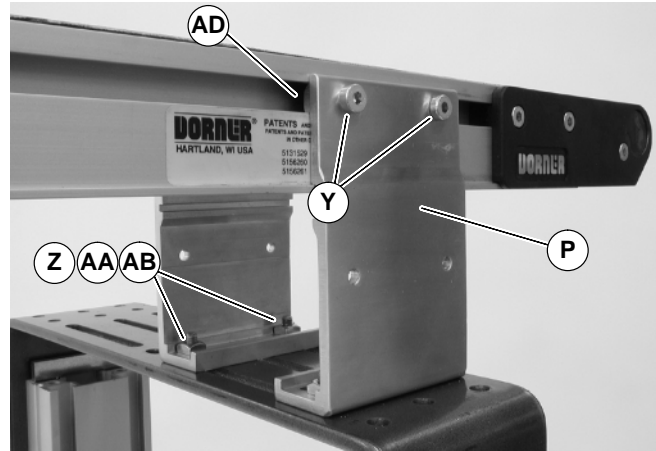

Figure 11
3. Insert T-bars (AC of Figures 9 & 10) into conveyor side slots (AD of Figure 11). Fasten brackets (P of Figure 11) to conveyor with mounting screws (Y).
4. Fasten brackets to support stand with mounting screws (Z of Figure 11), washers (AA) and nuts (AB).
5. Tighten screws (Y & Z of Figure 11) to 60 in-lb (7 Nm).